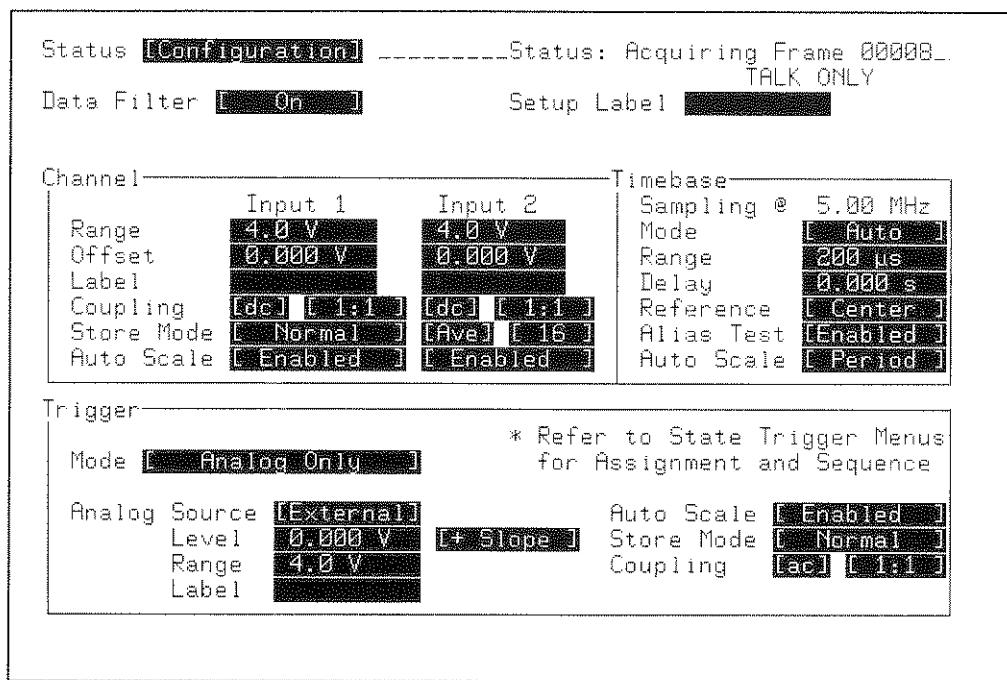

Figure 10-8. 54200A/D Configuration
4. Configure the STATUS Configuration menu as shown in figure 10-8.